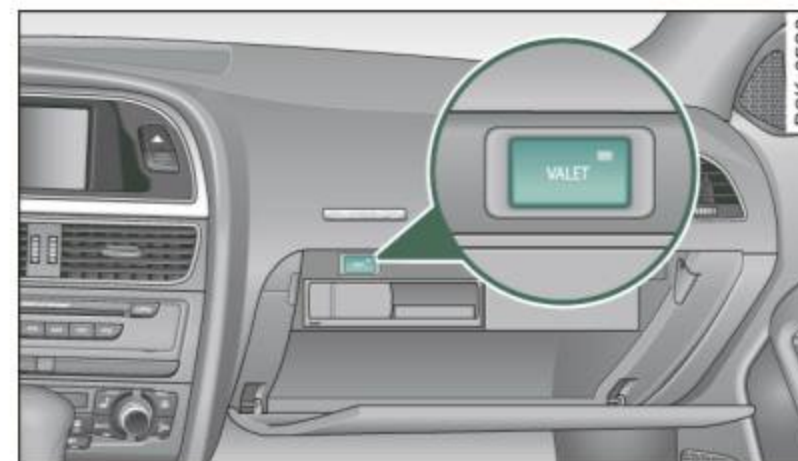

Fig. 50 Valet parking button
- Open the glove box ⇒ page 97 and activate ⇒ fig. 50 the "valet parking" feature by pressing the **VALET** button. The indicator light in the switch illuminates.